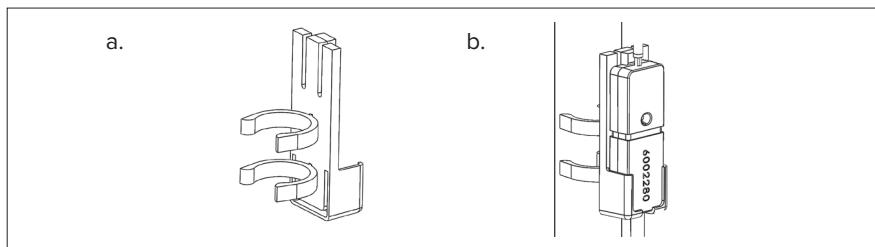

Figure 7: Connect the Clips
- a. As shown in **FIGURE 7**, connect the clips to the back of the flow sensor board holder.